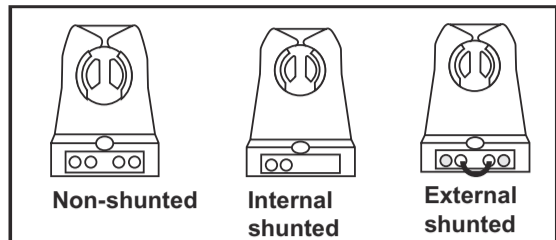

Figure 1.-Lampholder Type
7. Identify what type of lampholders are in fixture (**Figure 1**). If existing lampholder is internally shunted, then replace with new non-shunted lampholder. If lampholder is shunted with a jumper wire (**Figure 2**), remove wire to convert into non-shunted.